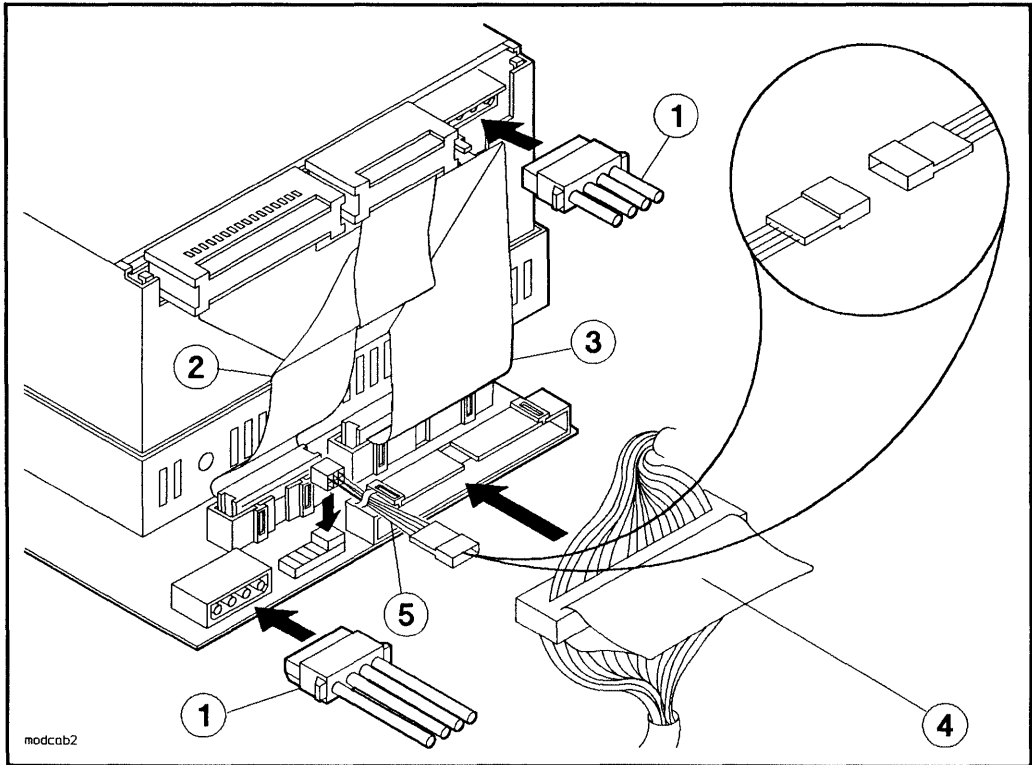

Figure 5-7. Connecting Cables to the Rewritable Optical Disk Drive
On some older mass storage systems (Models 330D/S and 660D/S), the rear panel SCSI address switches are for hard disk drives only. For this reason, the device in your upgrade kit is shipped with necessary address jumpers or DIP switches installed. If you do not have a Model 330D/S or 660D/S mass storage system, these device address jumpers or DIP switches are not needed and can be removed. Connect the address cable in their place as shown in Figure 5-7.
1. Connect the 20-pin data cable to the drive (see Figure 5-7).